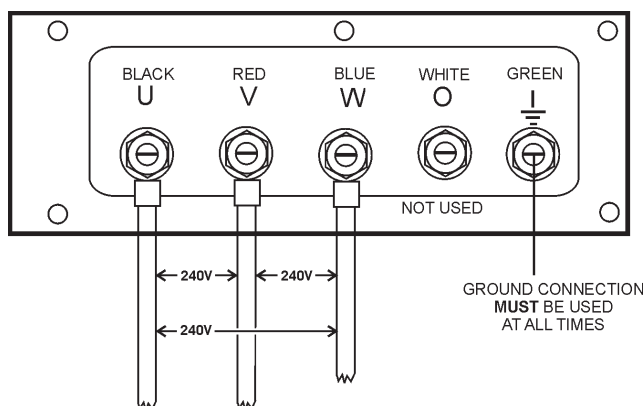

Figure 25. UVWO Terminal Lugs 1Ø-240V Connections
2. Connect the load wires to the UVWO terminals as shown in Figure 25.